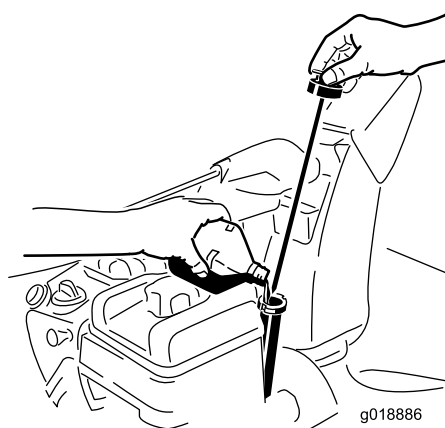

Figure 33
2. Remove the dipstick and check the oil level (Figure 33). If the oil level is below the Add mark on the dipstick, add oil. Refer to Filling the Engine with Oil.